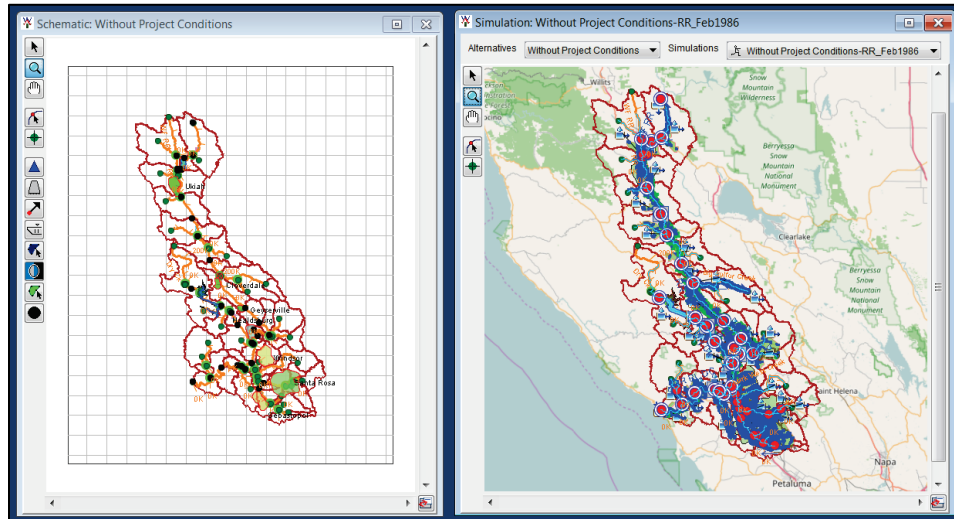
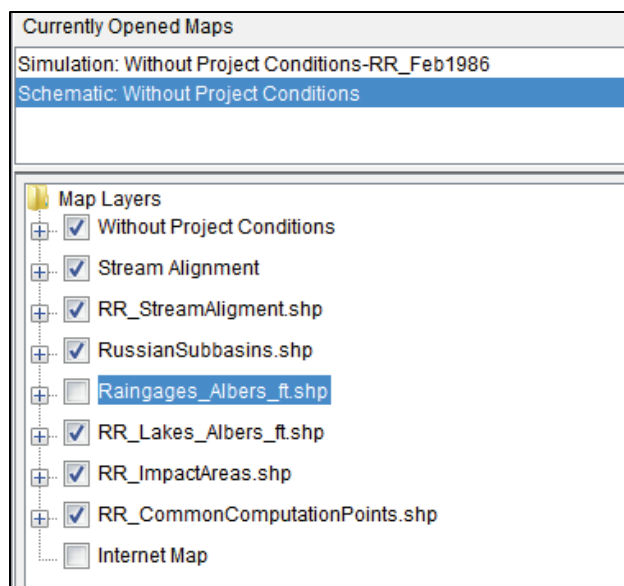

Figure 3.5 Desktop Pane
Figure 3.7 Maps Tab
**Desktop Pane** The **Desktop Pane** (Figure 3.5) is where the different map windows that are available from HEC-WAT will display. For example, in Figure 3.5, the **Desktop Pane** contains a map window of a selected simulation and a map window of a selected schematic. These two map windows provide the user with a graphical representation of a simulation and a schematic.
This tab (Figure 3.7) provides a view (maps view) of the available map windows currently active in the **Desktop Pane** (Figure 3.5). The maps windows are displayed by type in the **Currently Opened Maps** pane (Figure 3.7). In the **Map Layers Tree** (Figure 3.7) information about the layers for a selected map window are displayed. From the **Map Layers Tree**, the user can turn map layers on/off, adjust properties of the map layers, and order the map layers for viewing in the associated map window. When the user switches to the **Maps** tab the HEC-WAT menu bar options will change.
The **Maps** menu (Table 3.4), can be used by an HEC-WAT user to setup map layers and map windows for an HEC-WAT study. The user can set spatial properties; zoom the active map window out to its full extents; add and remove map layers; open a new map window; adjust the active map window's properties; save the contents of the active map window as a graphics file; and, synchronize the current open map windows. The user can also add an Internet map to the active map window, and view the map windows in either the watershed coordinate system or the coordinate system of the Internet map. Other available commands include the ability to print a copy of the active map window in the **Desktop Pane** (Figure 3.5); import various schematic elements (stream alignment, impact areas, reservoirs, levees, computation points) from a shapefile; and, export various schematic elements (stream alignment, impacts areas, schematic elements) to a shapefile. The **Maps** menu is available in all HEC-WAT views.